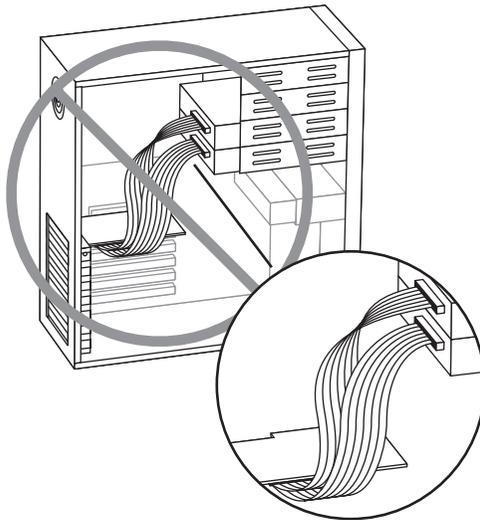

Figure 2-7. Illegal Cabling Configuration
- Illegal Configuration (see Figure 2-7)